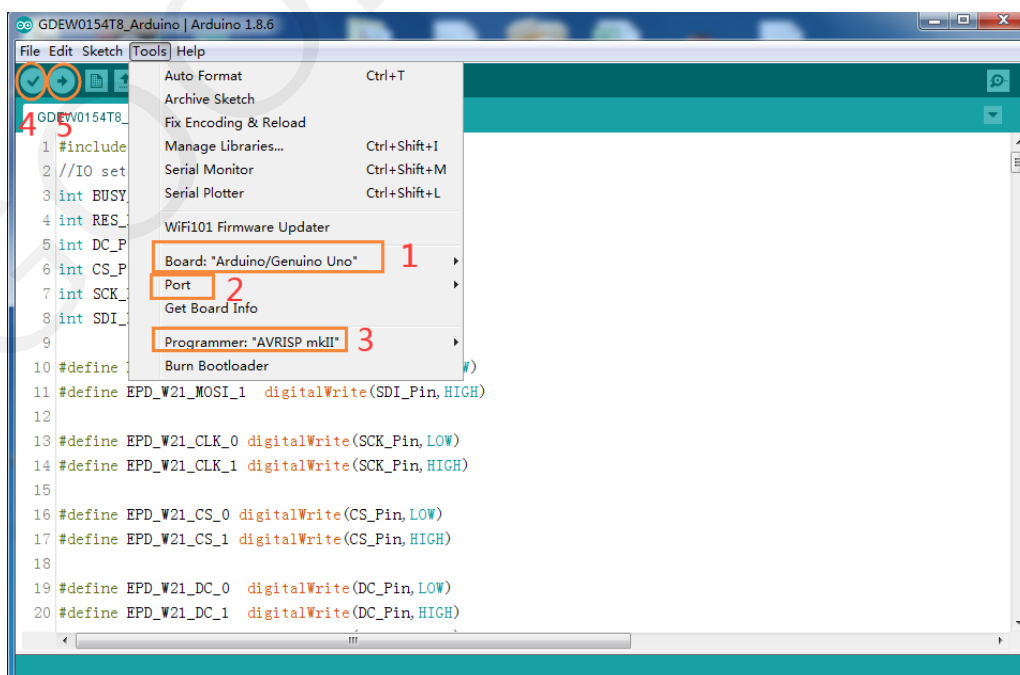

Figure 7 : Steps of downloading program
- 4) Configure in “工具” in Figure 7.
- 6) Select COM port in position 2 of Figure 7.
- 8) Click position 4  of Figure 7 to compile the program.
- 9) Click position 5  of Figure 7 to download the program to development board.